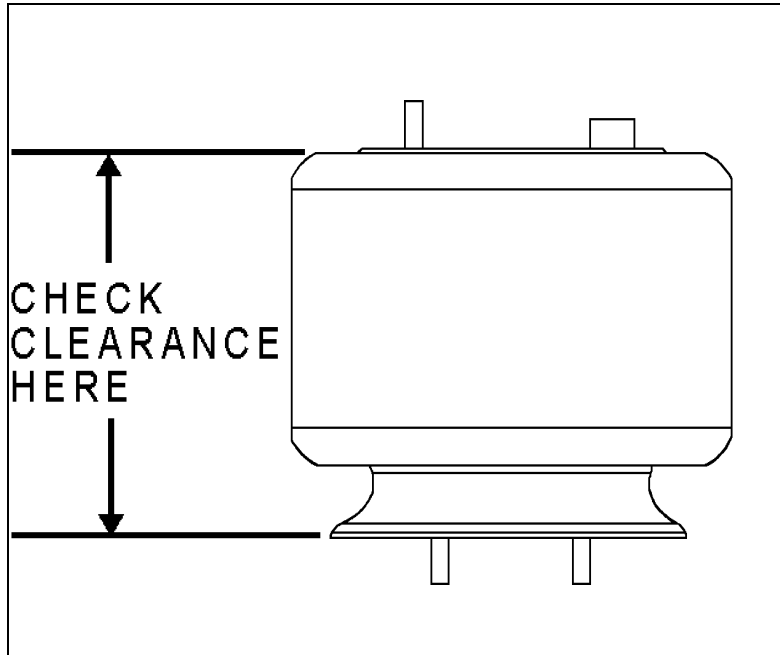

FIGURE 4: CHECKING THE CLEARANCE OF THE AIR SPRINGS
11. With the vehicle at normal operating pressure, check the appropriate vehicle body height by measuring the clearance of the air springs installed on the front axle, the clearance should be 12 ± 0.25 " (305 \pm 6mm). Refer to figure 4 to identify the correct location where the measure has to be taken.
10. With the vehicle at normal operating pressure, check the appropriate vehicle body height by measuring the clearance of the air springs installed on the drive axle, the clearance should be 11.5 ± 0.25" (292 ± 6mm). Refer to figure 4 to identify the correct location where the measure as to be taken.